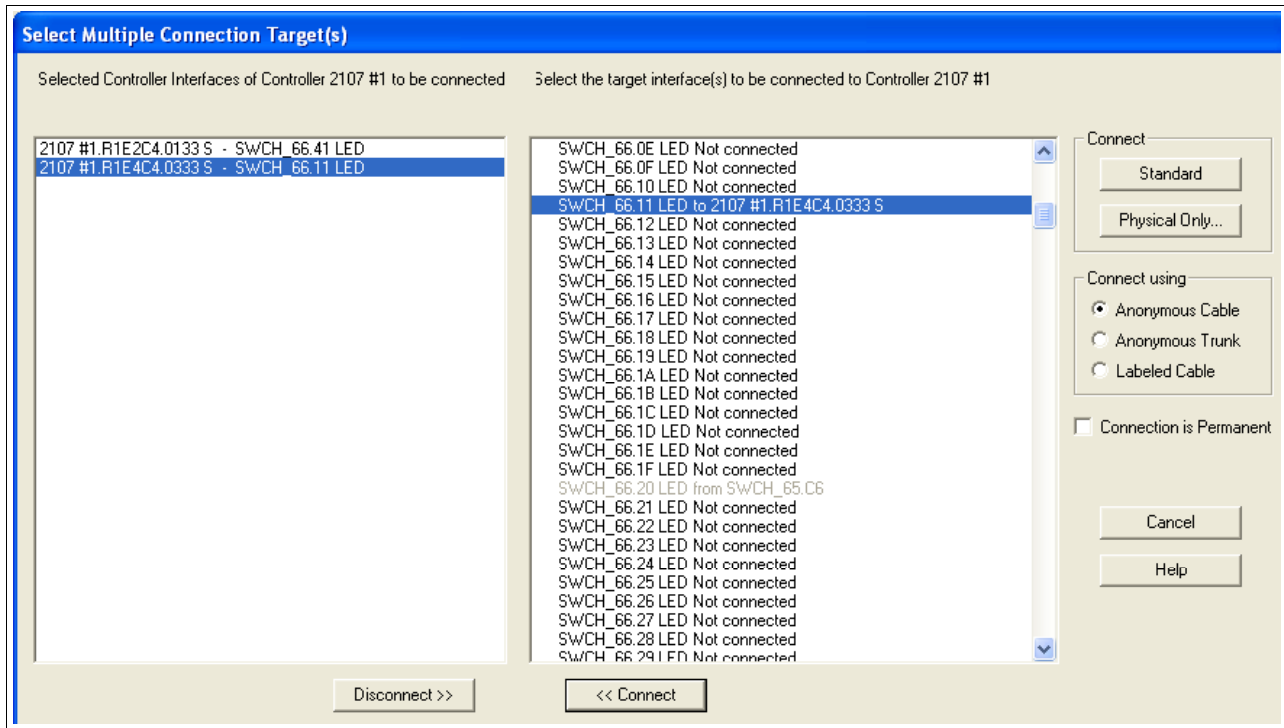

Figure 7-22 HCM Connecting to DS8000 interfaces to Switch Ports
25. Perform the same action for Controller interface 0333. Refer to Figure 7-22 on page 215.